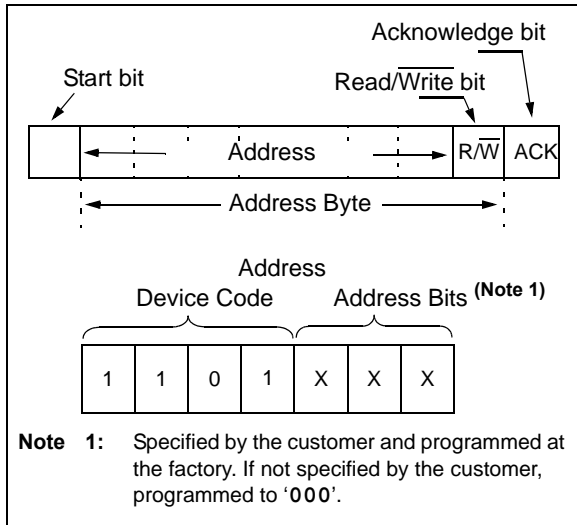
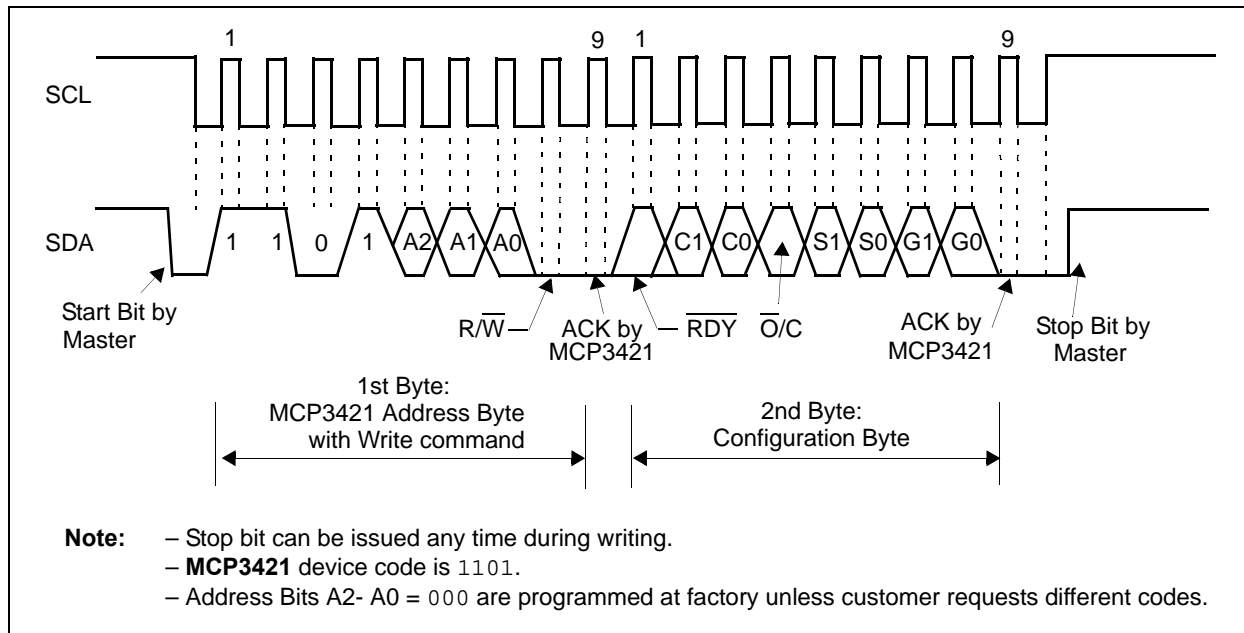
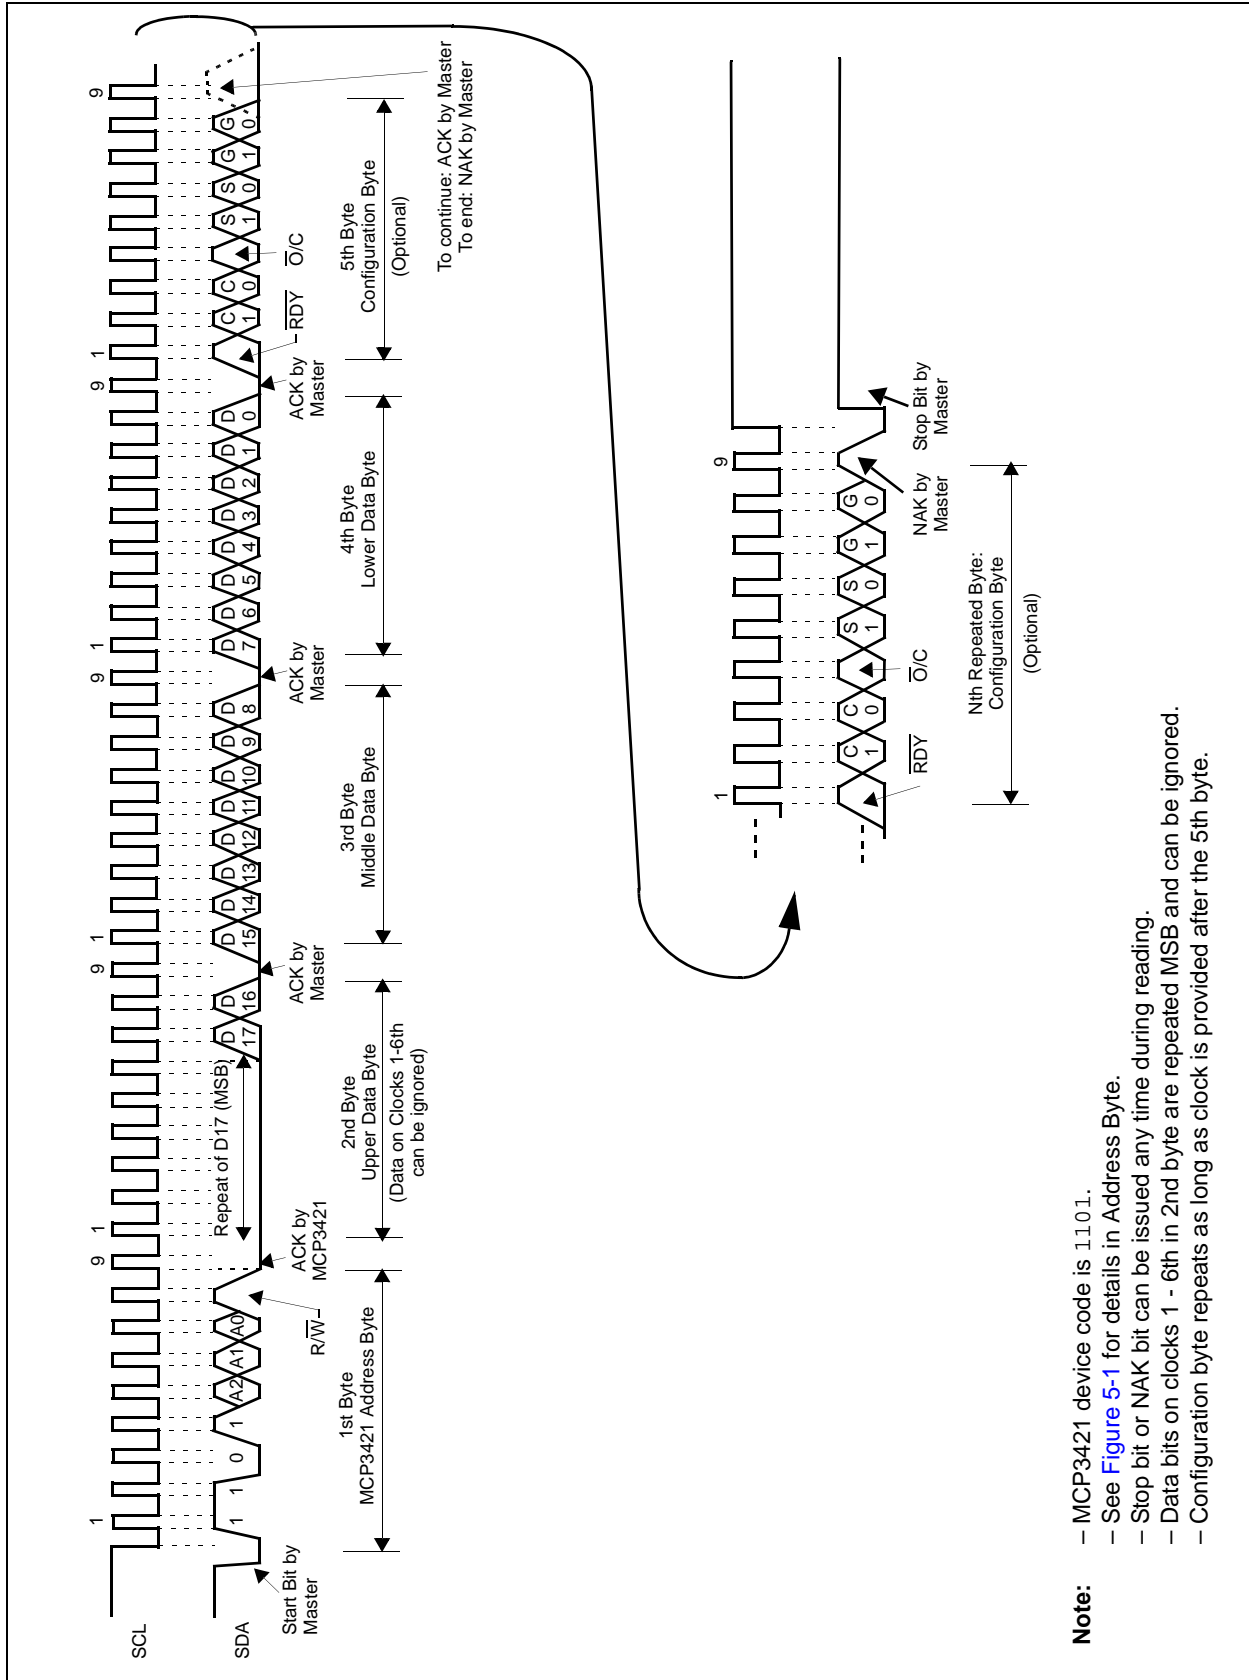
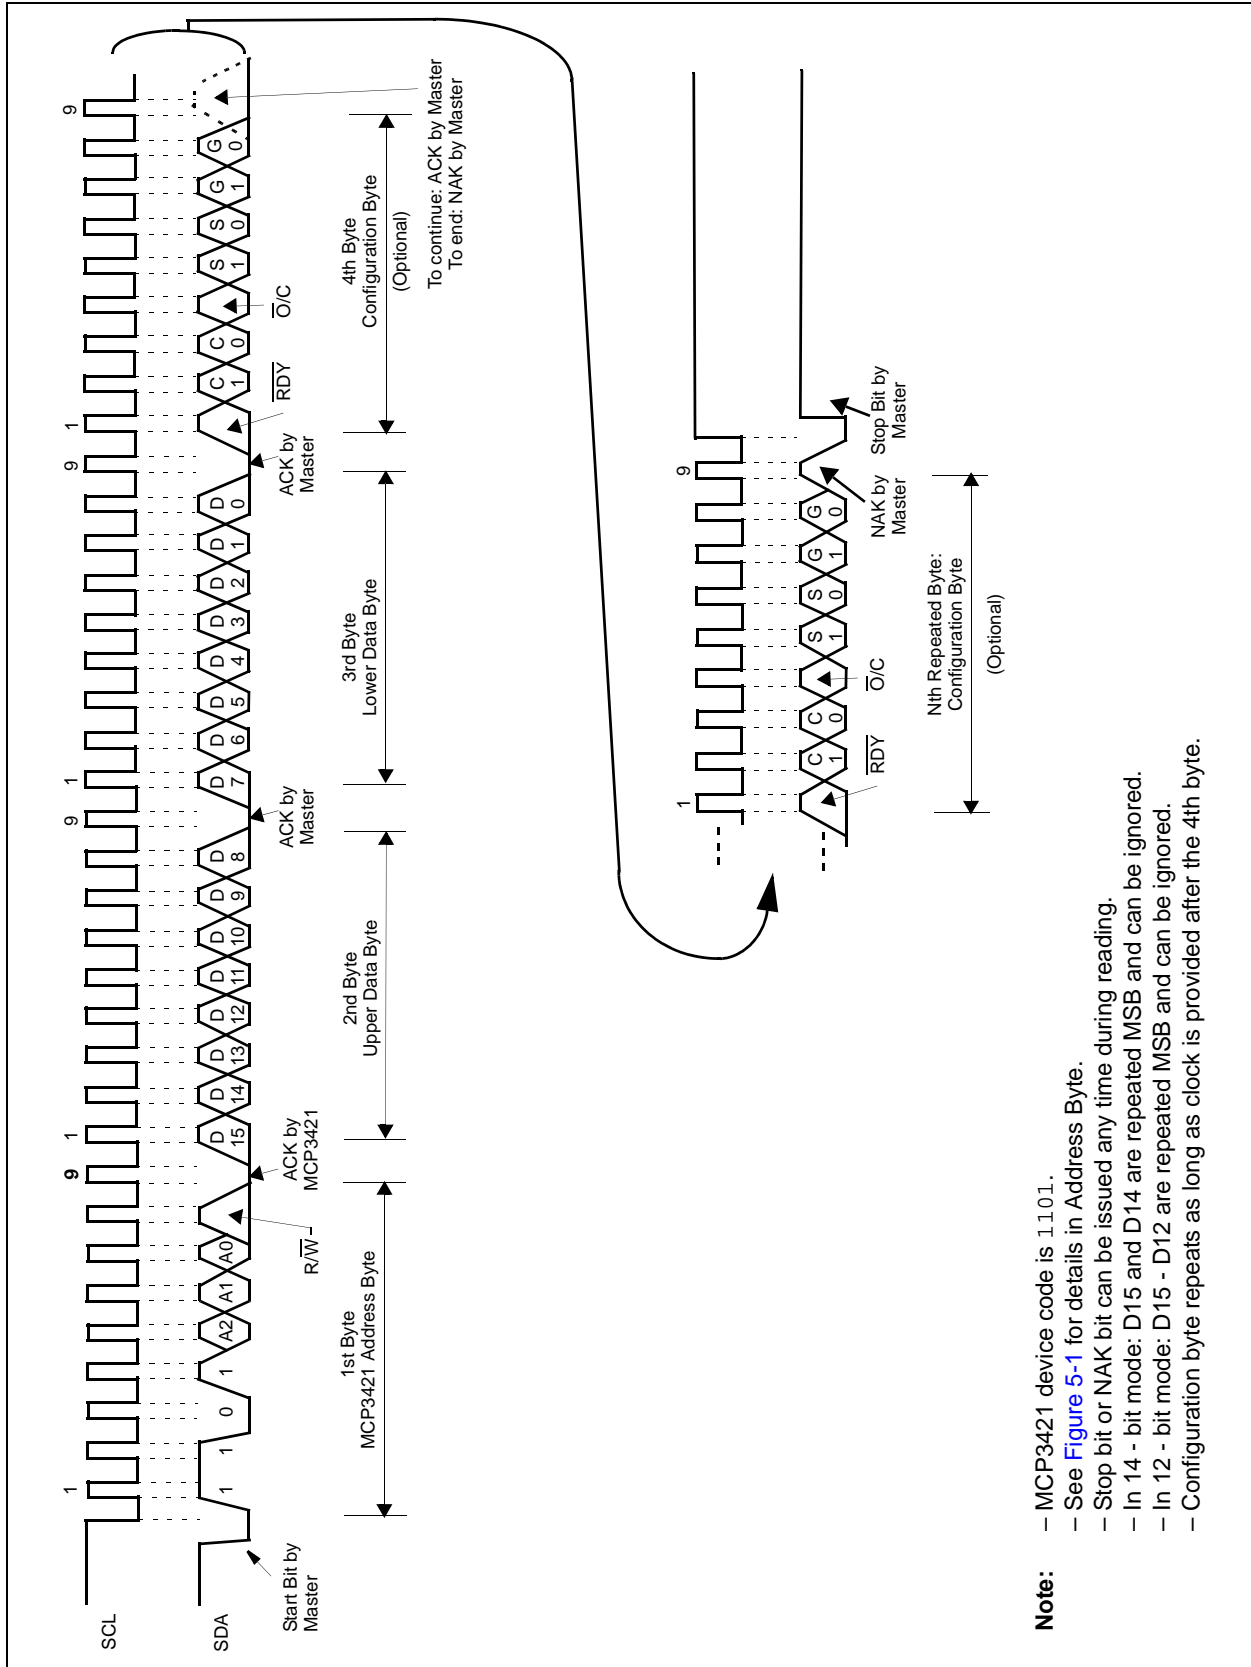

FIGURE 5-1: MCP3421 Address Byte.
FIGURE 5-2: Timing Diagram For Writing To The MCP3421.
FIGURE 5-3: Timing Diagram For Reading From The MCP3421 With 18-Bit Mode.
FIGURE 5-4: Timing Diagram For Reading From The MCP3421 With 12-Bit to 16-Bit Modes.
The user operates the device by setting up the device configuration register using a write command (see Figure 5-2) and reads the conversion data using a read command (see Figure 5-3 and Figure 5-4). The device operates in two modes: (a) Continuous Conversion Mode or (b) One-Shot Conversion Mode (single conversion). This mode selection is made by setting the $\overline{O/C}$ bit in the Configuration Register. Refer to **Section 5.2 “Configuration Register”** for more information.
Figure 5-3 and Figure 5-4 show the examples of reading the conversion data. The user can rewrite the configuration byte any time for a new setting.
Figure 5-1 shows the address byte. Figure 5-2 through Figure 5-4 show how to write the configuration register bits and read the conversion results.
Figures 5-3 and 5-4 show the timing diagrams of the reading.
- See Figure 5-1 for details in Address Byte.